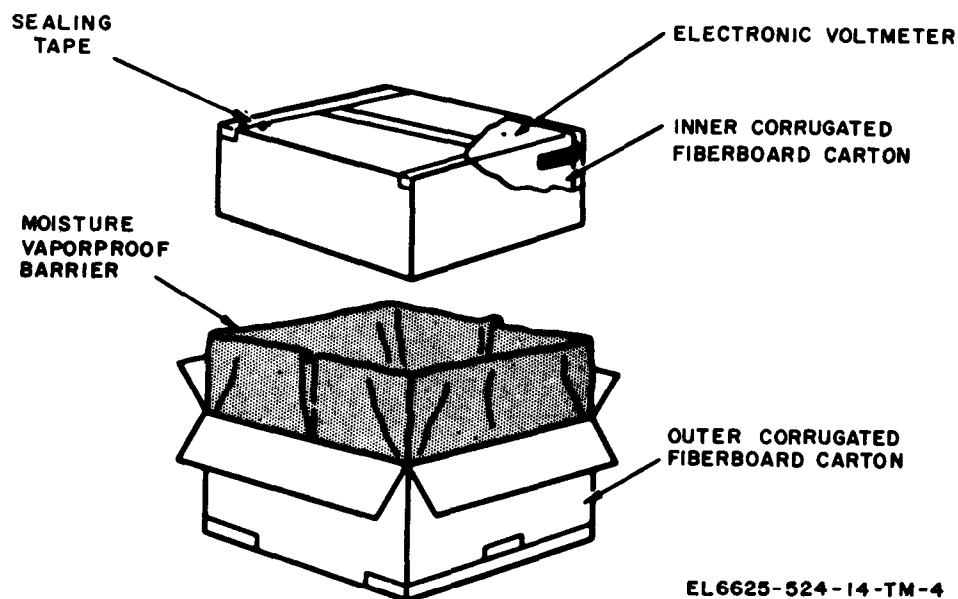

Figure 2-1. Typical packaging diagram.
*a. Packaging Data.* When packed for shipment, Voltmeter, Electronic A-N/URM - 145B is placed in a waterproof carton and packed in a corrugated cardboard box. A typical packing case and its contents are shown in figure 2-1.
*b. Removing Contents.* Perform all the procedures in (1) through (4) below when unpacking equipment.
- (1) Open the outer corrugated carton and moistureproof barrier.
- (2) Remove the inner carton.
- (3) Open the inner corrugated carton.
- (4) Remove the voltmeter.